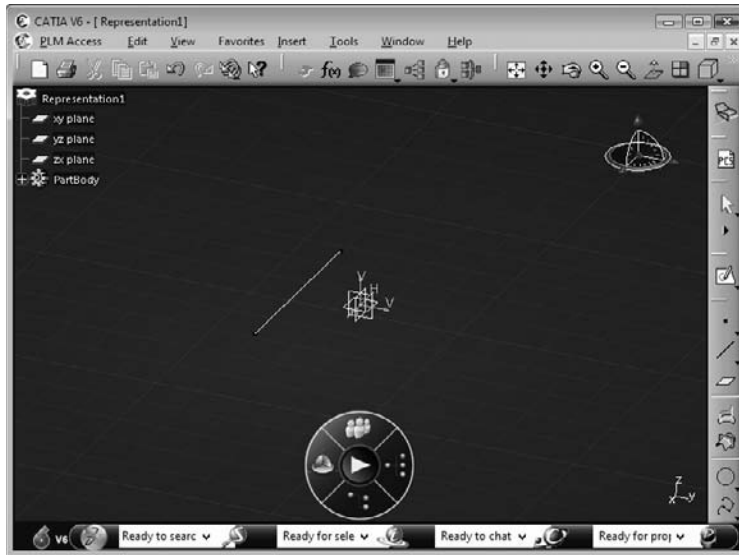

FIGURE 5.55
**Figure 5.55** shows the sketch of the reference surface in the Wireframe and Surface Design workbench: